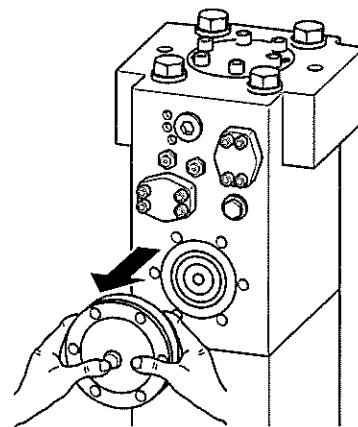

Fig. 14
- Remove high-pressure accumulator (Fig.14).